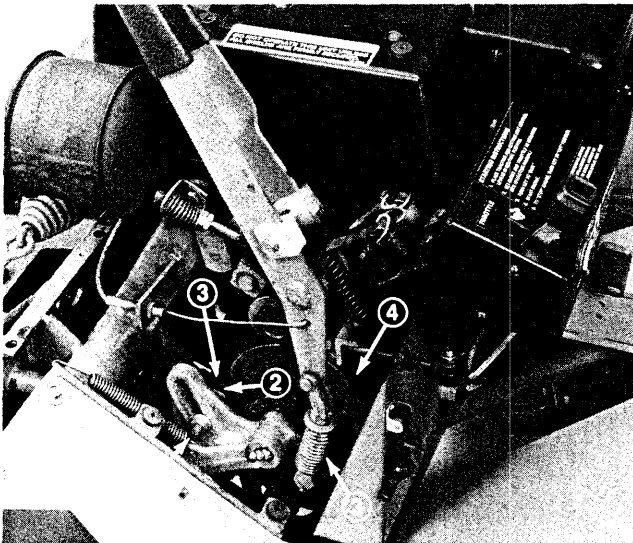

Figure 38
2. Loosen nut securing sprocket and belt guide (Fig. 38).
3. Slide sprocket down in slot until chain is snug (Fig. 38).
2. Loosen belt guides (Fig. 38).
3. Either cut belt or work it off end of engine and traction drive pulleys and slide it edgewise between traction and reel drive pulleys (Fig. 38).